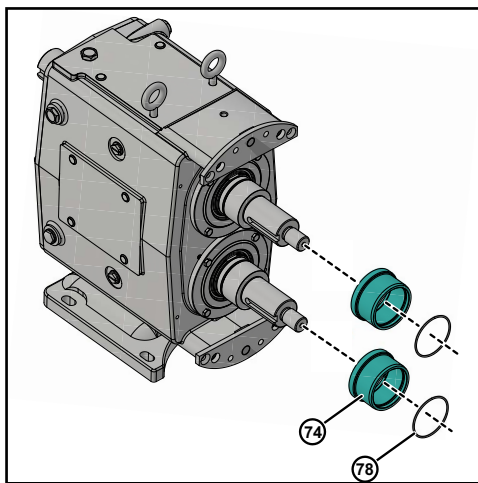

Figure 116 - Remove Sleeves and O-rings
5. Remove the two sleeves (74) along with two sleeve O-rings (78), as shown in Figure 116.